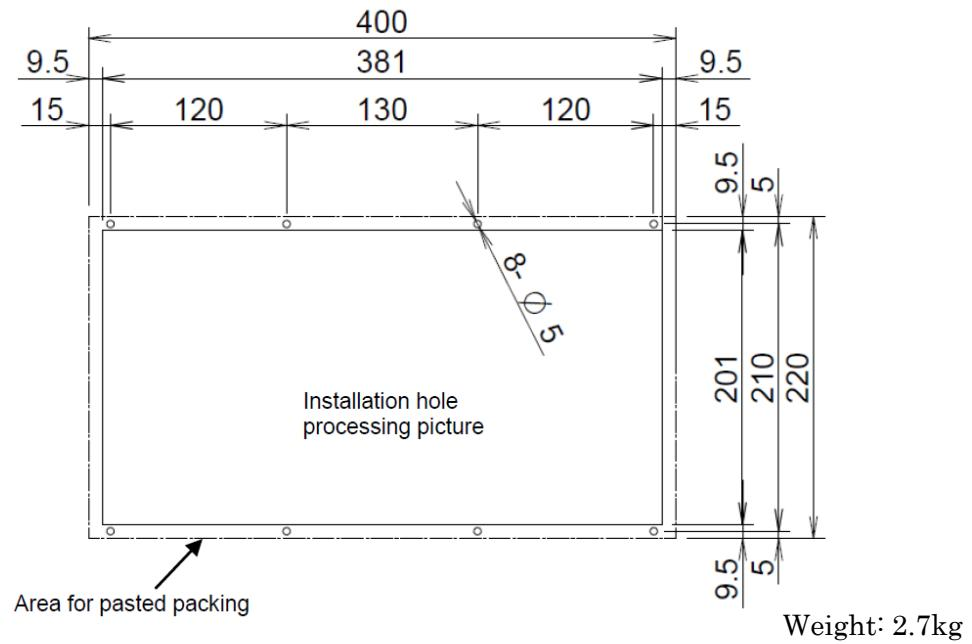

Fig. U16 10.4" LCD/MDI unit B(Horizontal) ⑧
10.4" LCD/MDI unit B(Horizontal)	Fig. U16